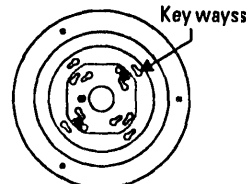

Fig. 2
- Twist reveal cap in a counter-clockwise direction so that screws move into the locked position of the key ways as shown in Fig. 2 and tighten screws.